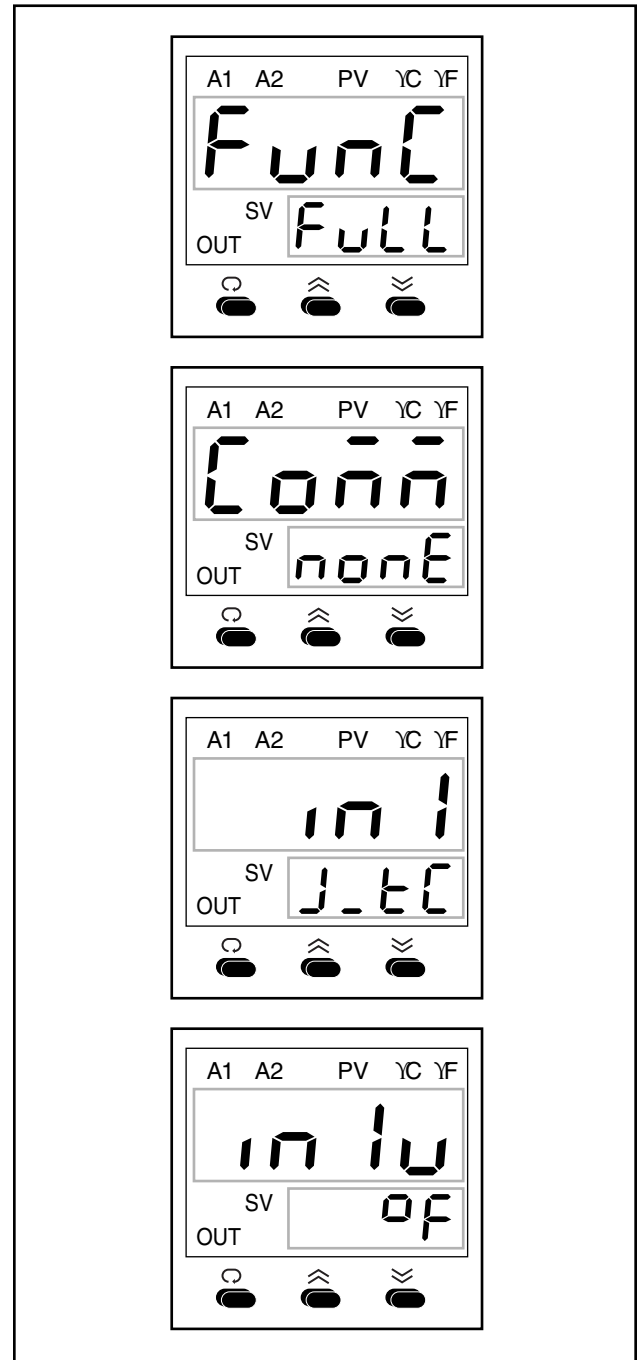

Figure 32: Toggling Through Functions
- Press Button 1 four times until Figure 32 is displayed.